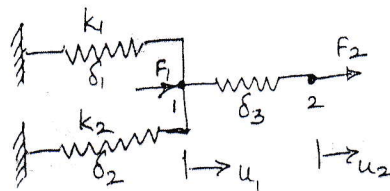

Fig Q2(a)
- 2 a. State the principle of minimum potential energy. Determine the displacements at nodes for the spring system shown in Fig Q2(a), Take :  $K_1 = 50\text{N/mm}$  ;  $K_2 = 60\text{N/mm}$  ;  $K_3 = 70\text{N/mm}$